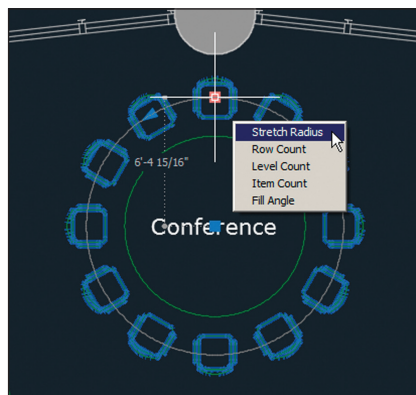

FIGURE 4.21 Editing a polar array with its grips
7. Click any one of the chairs to select the polar array. Hover the cursor over the base point grip and choose Stretch Radius (see Figure 4.21). Type 5'9 (or 175 for metric); then press Enter and Esc. The chairs more closely wrap around the smaller table.